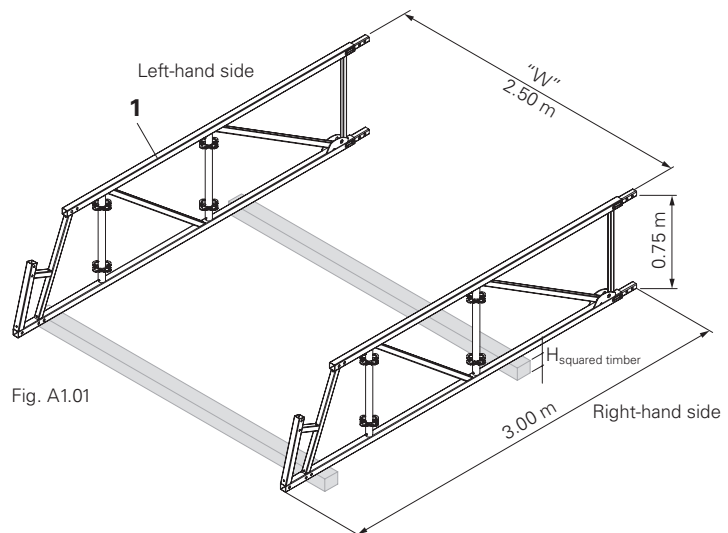

Fig. A1.01
- If a tension system is required, use squared timber as a means of support with height "H_{squared timber}" ≥ 16 cm. (Fig. A1.01)
1. Place eave element (1) on two cross-wise positioned squared timbers.
- Squared timbers are used as support during assembly. (Fig. A1.01)